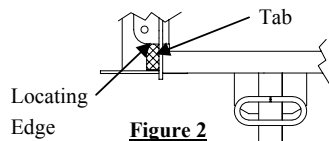
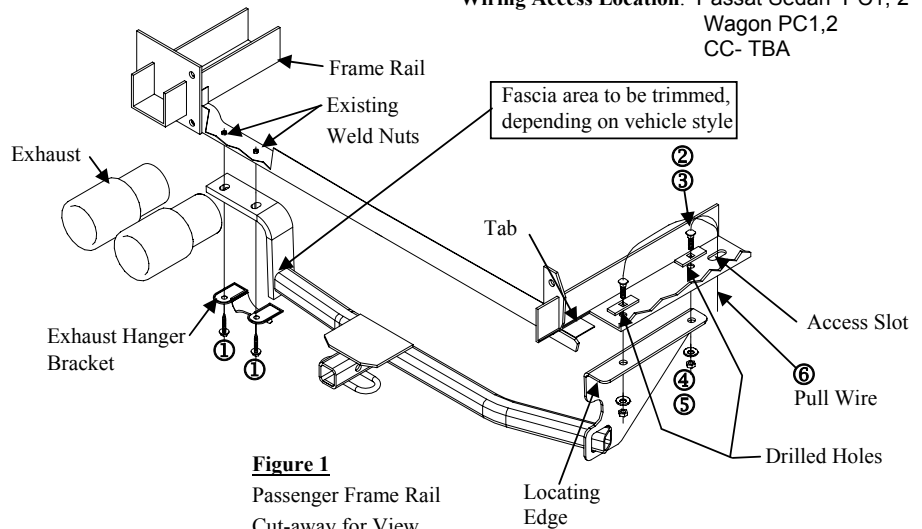

Figure 2
Figure 1
①	Qty. (2)	Bolt M8 X 1.25 X 55 CL 9.8	④	Qty. (2)	Conical Washer 7/16"
②	Qty. (2)	Bolt, Carriage 7/16-14 X 1.50 GR 5	⑤	Qty. (2)	Nut 7/16-14
③	Qty. (2)	Block ¼ X 1 X 3	⑥	Qty. (1)	Pull wire
- Remove plastic fascia covering the passenger side frame rail of the vehicle by removing the (5) Torx screws. Return plastic fascia covering and screws to vehicle owner. Remove the two plastic fascia nuts from the fascia tabs (Do not discard).
- Remove the (2) bolts from the exhaust hanger bracket as shown in Figure 1 to lower the exhaust. Return bolts to owner.
- Slide the driver's side bracket above the exhaust bracket. Note: Sandwiching the hitch bracket between frame and exhaust hanger bracket. Using the (2) M8 bolts loosely tighten the fasteners. Note: Rotate the hitch for ease of installation.
- Align the passenger bracket with the locating edge and the tab see Figure 2 (check hitch for alignment perpendicular of the vehicle making sure the bracket is flat against the frame rail). The passenger side bracket may need to be pushed flat against the frame rail. Then using the hitch as a template mark the hole locations. Drill the 1/2" holes.